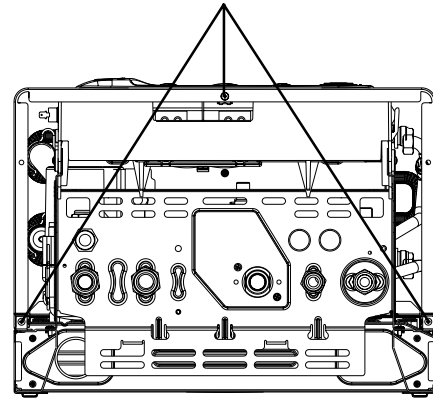

Fig. 13
- Locate and remove the 3 screws that secure the outer casing to the appliance (fig 13).